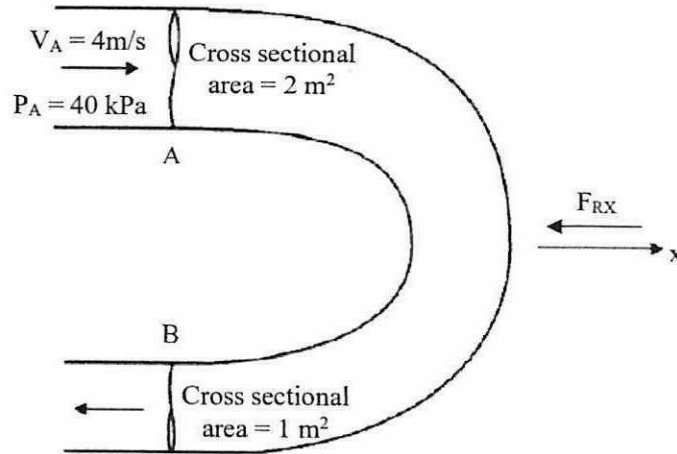

Figure Q2.2
- (d) Water flows through a reducing 180° bend as shown in **Figure Q2.2**. Examine the magnitude of the force exerted on the bend in the x-direction (F_{RX}). Assume energy losses to be negligible.